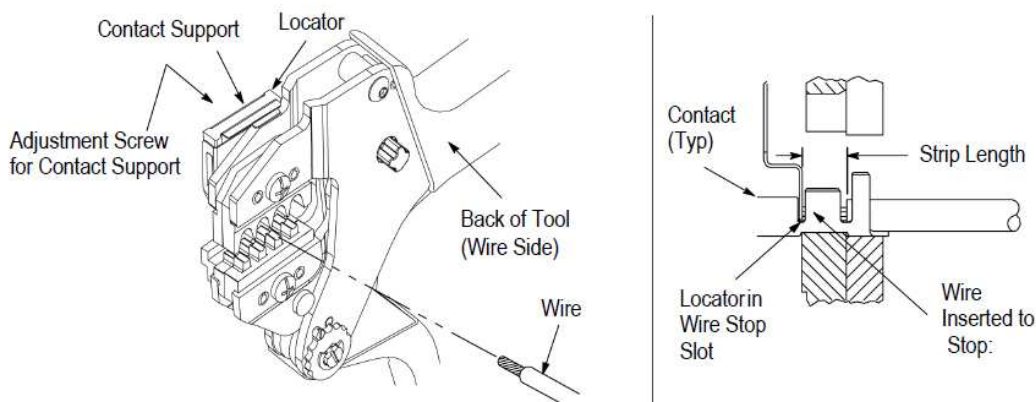

Figure 2
### 4. CONTACT SUPPORT ADJUSTMENT [SEE FIGURE 2]
Refer to the table in Figure 1 and select wire of the specified size and insulation diameter. Strip the wire to the length indicated in Figure 1, taking care not to nick or cut wire strands. Select an applicable contact and identify the appropriate crimp section according to the wire size markings on the tool. Refer to Figure 2 and proceed as follows:
3. Position the contact so that the mating end of the contact is on the locator side of the tool, and so that the open "U" of the wire and insulation barrels must face the top of the tool. Place the contact up into the nest so that the movable locator drops into the slot in the contact. Refer to Figure 2. Butt the front end of the wire barrel against the movable locator.